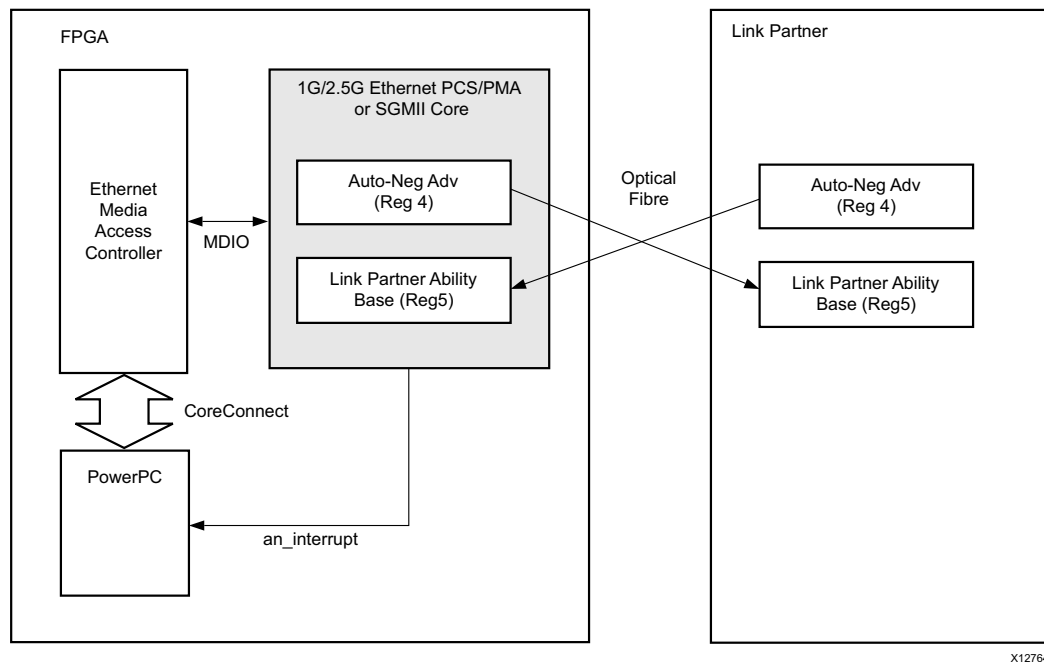

Figure 3-51: 1000BASE-X Auto-Negotiation Overview
IEEE 802.3-2008 clause 37 describes the 1000BASE-X auto-negotiation function that allows a device to advertise the modes of operation that it supports to a device at the remote end of a link segment (the link partner) and to detect corresponding operational modes that the link partner advertises. Figure 3-51 shows the operation of 1000BASE-X auto-negotiation.
- The PHY then passes the results of the auto-negotiation process with the link partner to the core (in SGMII mode), by leveraging the 1000BASE-X auto-negotiation specification described in Figure 3-51. This transfers the results of the Link Partner auto-negotiation across the SGMII and is the only auto-negotiation observed by the core.
- There are no other differences and dealing with the results of auto-negotiation can be handled as described previously in Figure 3-51.